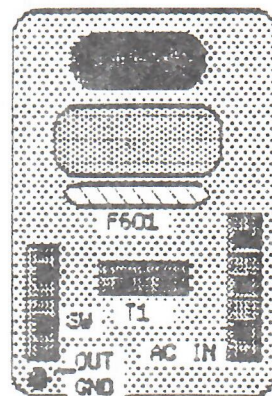

Figure 2
2. Remove the three plugs from the filter board, AC IN, T1 and SW (see Figure 2).